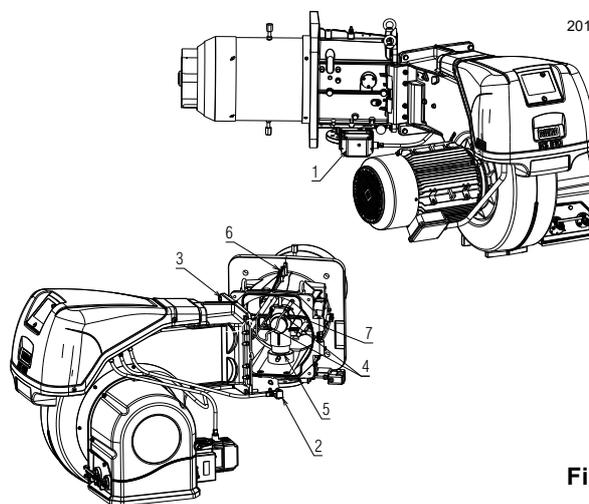

Fig. 17
- Open the burner on the hinge as in Fig. 17.